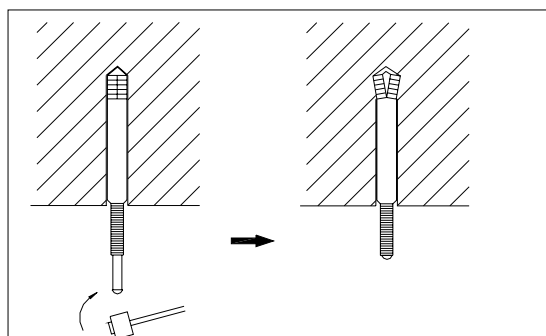

Figure 1-1-1
- Insert a M10 expansion bolt into the hole. Drive a nail into the bolt. Refer to the profile dimensions drawing of the indoor unit for the distance between the holes. Refer to Figure 1 for the installation of the expansion bolt, as Figure 1-1-1 shows.